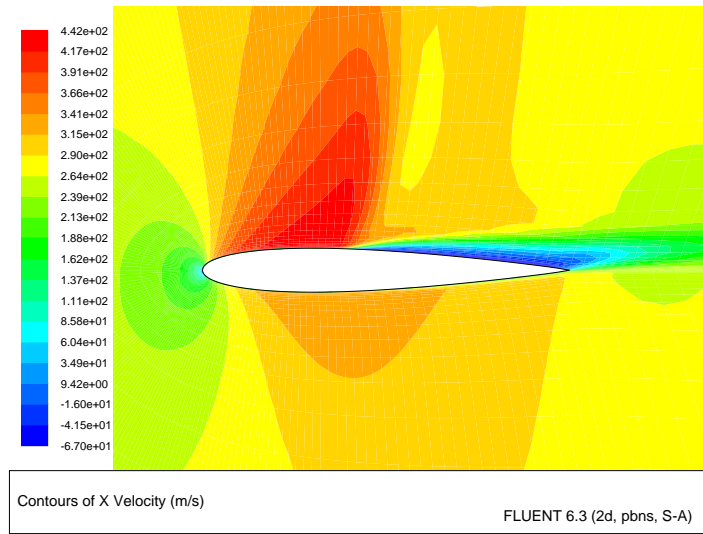

Figure 3.15: Contour Plot of  $x$  Component of Velocity
5. Display filled contours of the  $x$  component of velocity (Figure 3.15).
*Note the flow reversal downstream of the shock in Figure 3.15.*